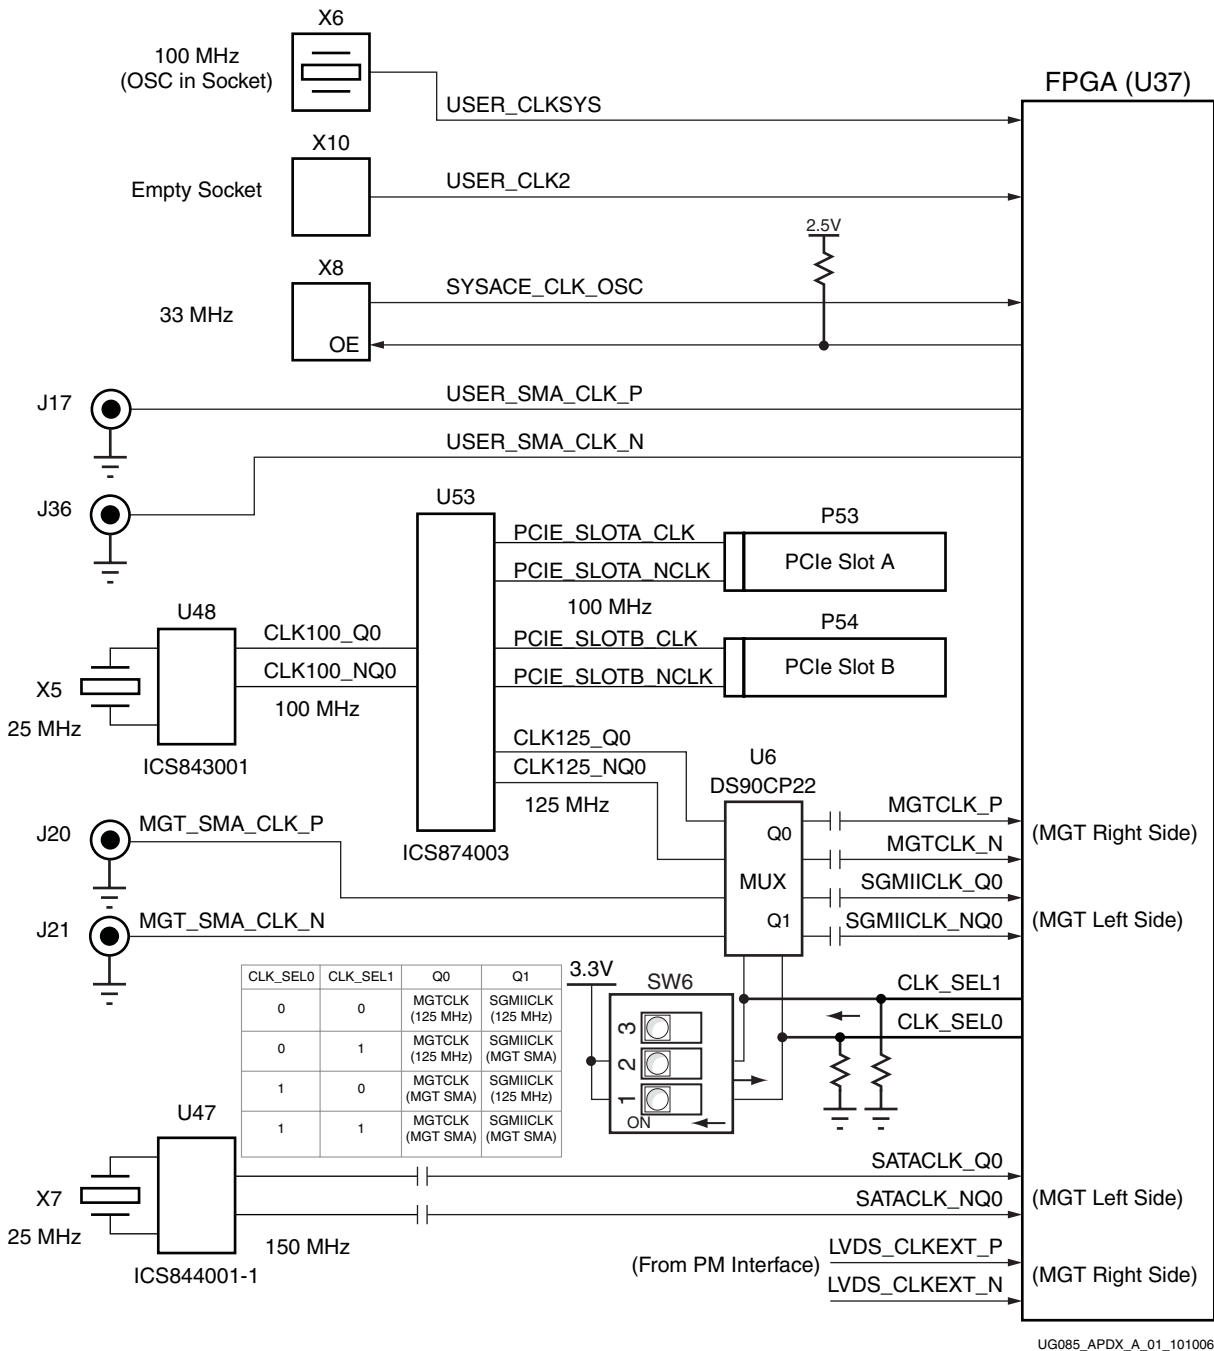

Figure A-1: Clock Distribution for Revisions C and D
- See Virtex-4 Errata regarding FX GT11 jitter and AR23392 regarding Virtex-4 FX GT11 jitter errata for SGMII. Refer to Figure A-1, page 98 for more details regarding clock distribution on Rev. C and Rev. D boards.
- See Virtex-4 Errata regarding FX GT11 jitter. Refer to Figure A-1, page 98 for more details regarding clock distribution on Rev. C and Rev. D boards.
The MGT and SATA clock generation and distribution for earlier board revisions (Figure A-1) differs from revision E (Figure 2-3, page 27).
- These clocks are differential pairs through the RocketIO transceivers and are not available on ML410-P boards. See Figure A-1, page 98.